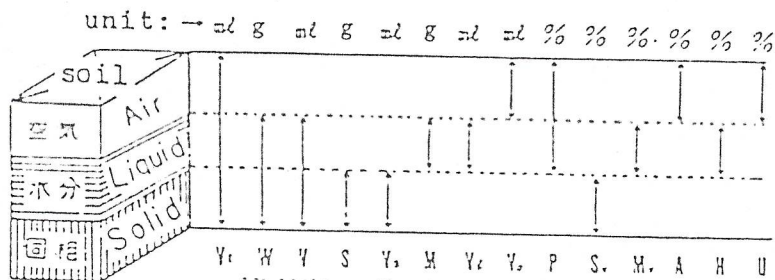

Fig. 3
- 2) When the actual volume is known, the fundamental physical properties of the soil can be obtained very simply and systematically one by one, as shown in Fig.3, such a method is called the actual volume method.